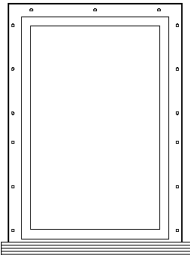

**Figure 5:** Installation type "C" using Equal Leg frame directly to structure
Page 10:	Figure 5: Installation type “C”
3. If installing flange windows, clean window flange and apply a generous amount of professional grade sealant / caulking material to flange at full perimeter. Make sure the sealant is compatible and will adhere to aluminum and wood. If installing equal leg frames (*figure5*), the perimeter sealant is applied after window is installed.